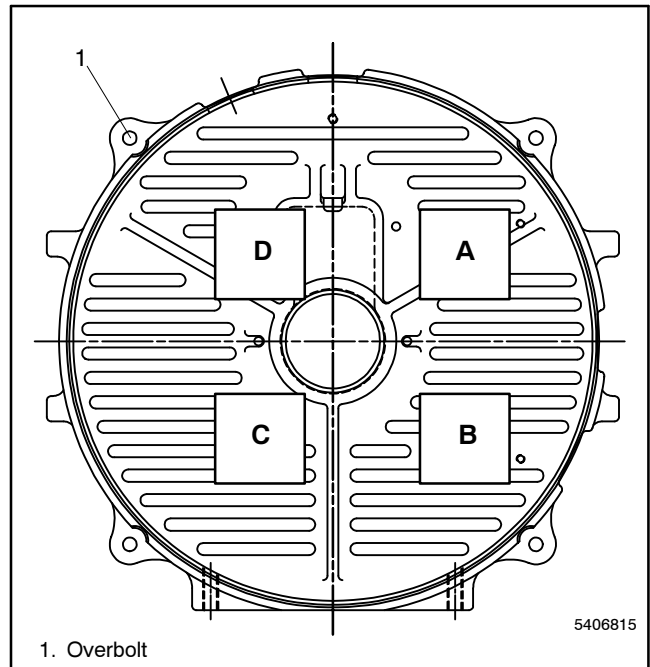

Figure 6-26 Flush Fit End Bracket
9. Use a hard rubber or dead blow hammer to alternately strike end bracket using medium force blows. Use the rotating sequence shown in Figure 6-26 to install end bracket. With end bracket fully seated in stator assembly, install and tighten overbolts as described in step 10.